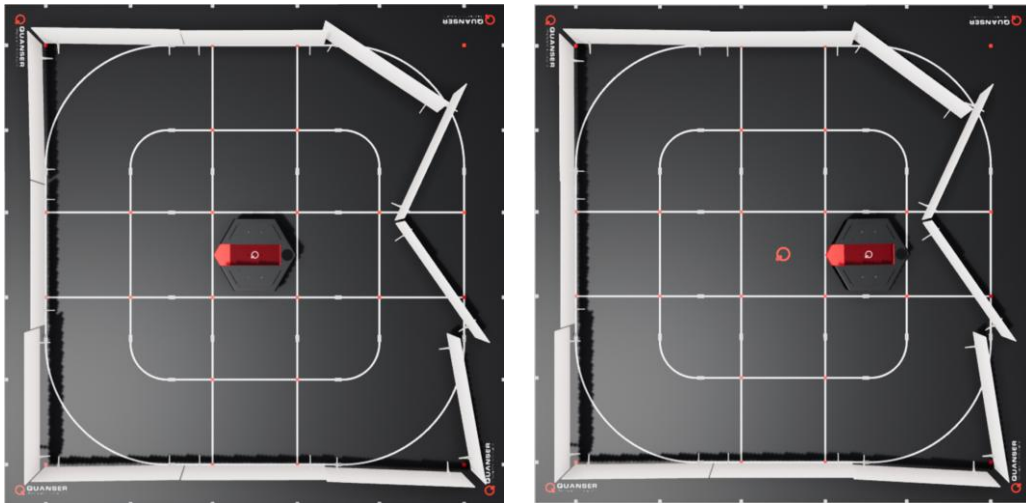

Figure 2. Top view of QBot in location A (left) and location B (right)
1. Consider a situation, shown in Figure 2, where the QBot: